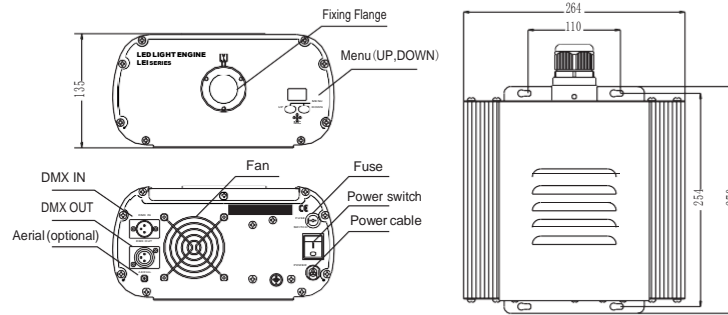

Fig.1
1. Installation dimension of light engine(see Fig1):